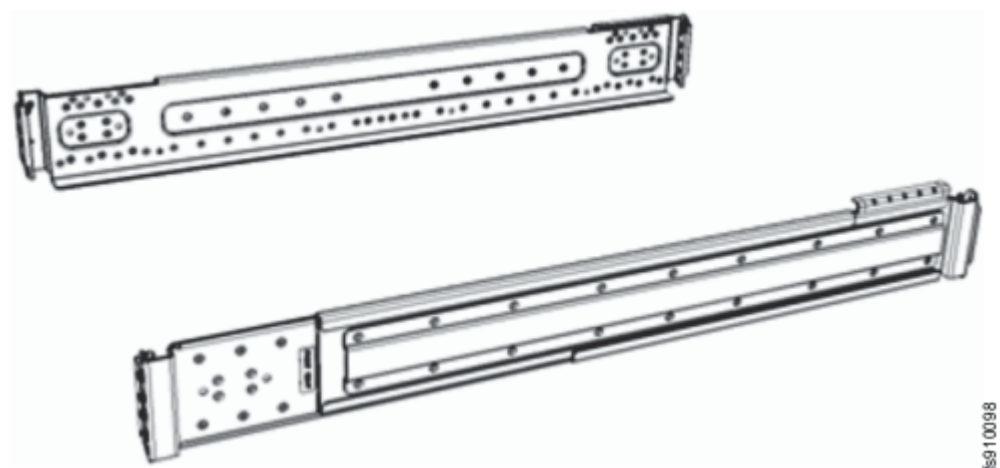

Figure 30. Control enclosure support rails
1. Locate the control enclosure rails, as shown in Figure 30 on page 74.